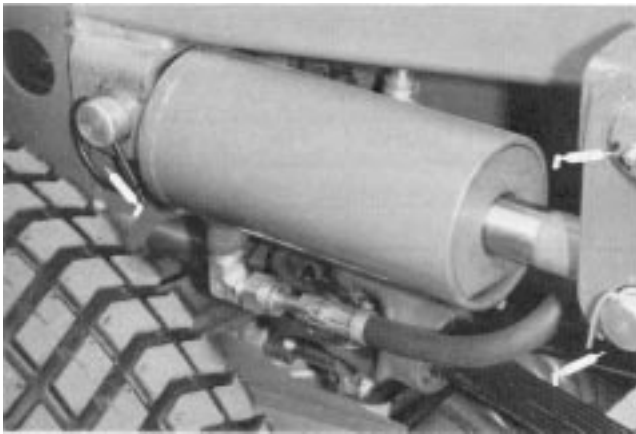
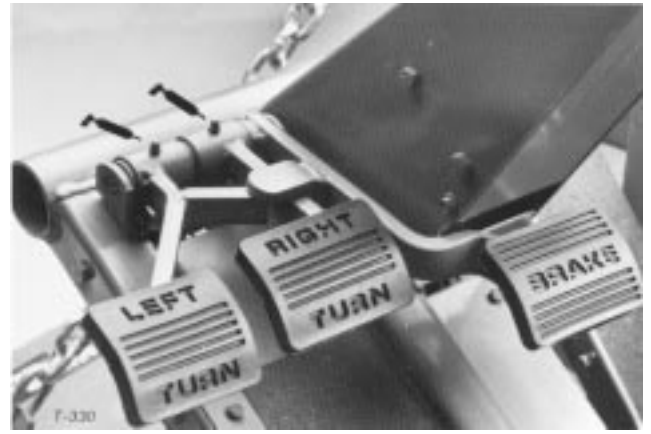

Figure 30
Figure 33
1. The traction unit bearings and bushings that must be lubricated are: PTO shaft and yokes (Fig. 29); lift arm pivots (Fig. 30); right and left push arm ball joints (Fig. 29); push arm pivot bushings (Fig. 31); PTO pivot housing blocks (Fig. 32); brake pivot bushings (Fig. 33); rear wheel spindle bushings (Fig. 34,35); steering plate bushings (Fig. 35); axle pin bushing